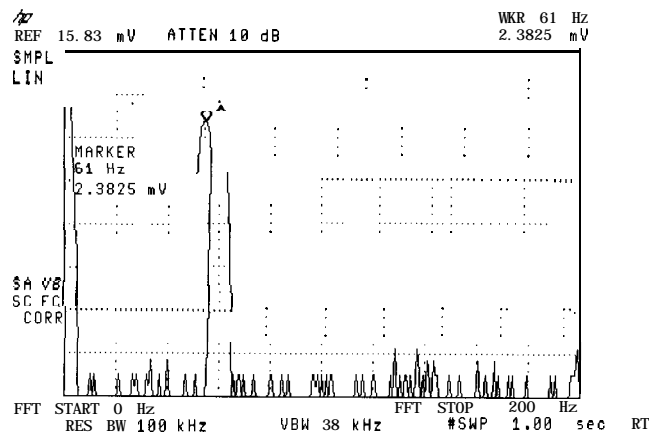

Figure 4-1. FFT Annotation
11. Press **(MEAS/USER)** and **% AM ON OFF** so that ON is underlined. The spectrum analyzer reads out the percent AM of the largest modulation frequency. An arrow indicates the signal being measured (see Figure 4-1). This measurement does not include all of the harmonics of the modulating signal.
7. Press **MEAS/USER** and **% AM ON OFF** so that ON is underlined. The spectrum analyzer reads out the percent AM of the largest modulation frequency. An arrow indicates the signal being measured (see Figure 4-1). This measurement does not include all of the harmonics of the modulating signal.